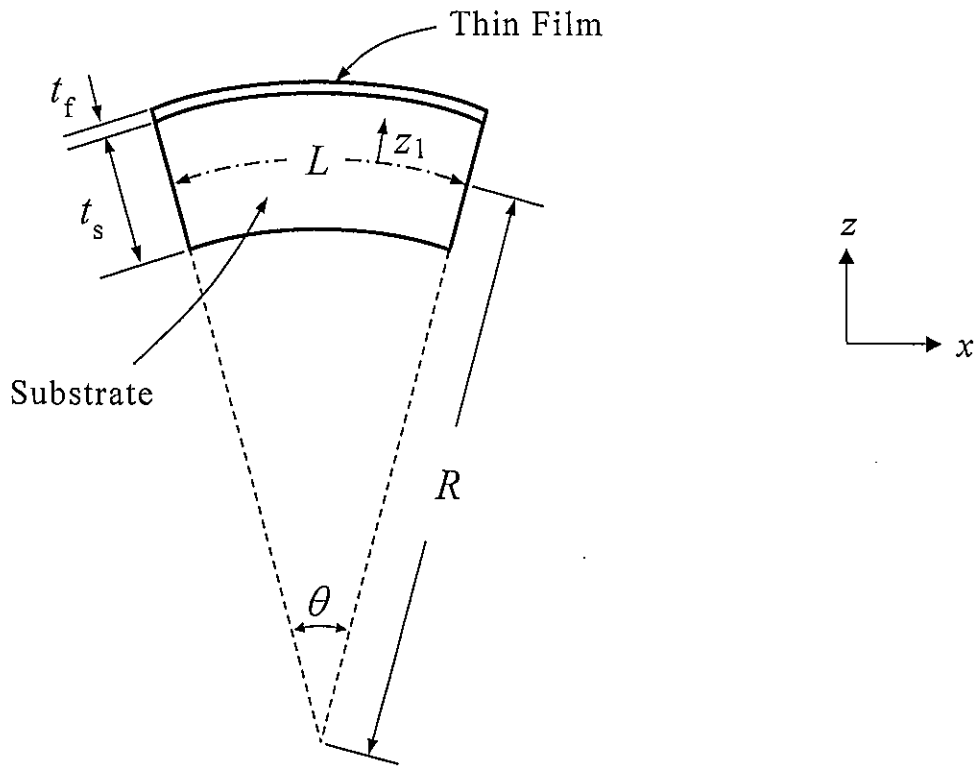
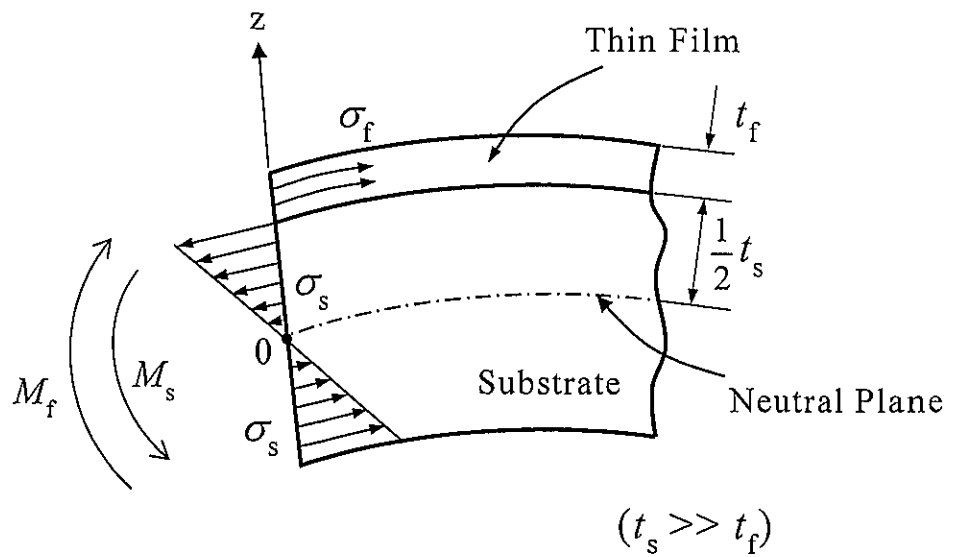

Figure 1-2
Figure 1-3
(2) Thin film is deposited on the substrate without external force before deposition. The substrate and the thin film are deformed as shown in Figure 1-2 due to an equi-biaxial compressive stress in the thin film produced by film deposition, where R is the radius of curvature of the substrate and θ is the subtended angle. Figure 1-3 is a schematic diagram showing the stress distribution and bending moments of the substrate and the thin film. Assume that the film thickness t_f is much less than that of the substrate t_s , so the neutral plane can be taken at the middle of the substrate, and the stress σ_f is uniform across the film thickness.
2. Consider the bending moment per unit width M_f produced by the stress of thin film σ_f and the bending moment per unit width M_s produced by the stress of substrate σ_s with respect to the neutral plane. σ_s is distributed in the substrate as shown in Figure 1-3. Express M_f and M_s with the necessary parameters among $E_s, \nu_s, t_s, E_f, \nu_f, t_f, W, R$ and σ_f .